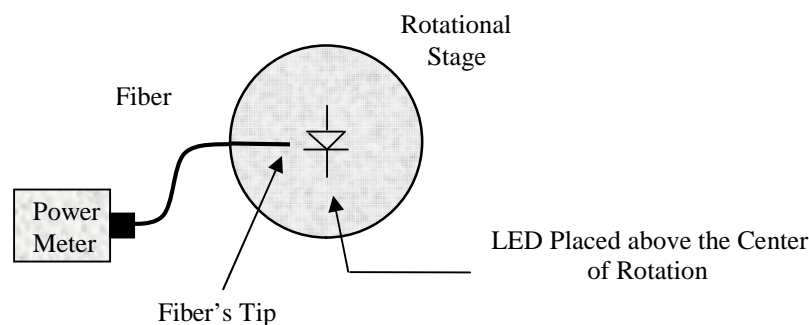
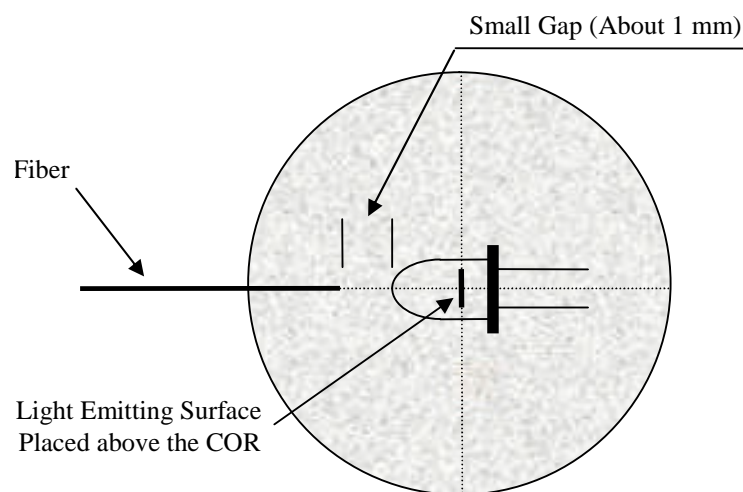

Figure 4: Experimental Setup for Measuring the Angular Emission Profile of the LED.
Figure 5: Detailed View of Figure 4.
- 2- Refer to the experimental setup shown in Figure 4. Adjust the position of the LED so that the *light emitting surface* is approximately *above* and midway with respect to the center of rotation (COR) of the rotational stage (see Figure 5 for detail).
- 4- Connect the fiber holder to the rotational stage adapter plate and adjust it, so that there is a gap of approximately $1mm$ separating the fiber's tip is from the LED, as shown in Figure 5.